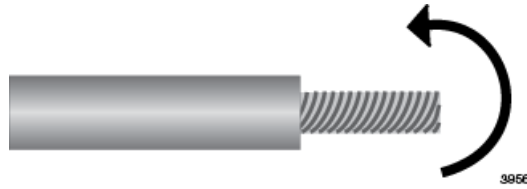

Figure 36. Wrapping the Wire Strands
2. Tightly wrap the wire strands with your finger tips. Refer to Figure 36 on page 89.